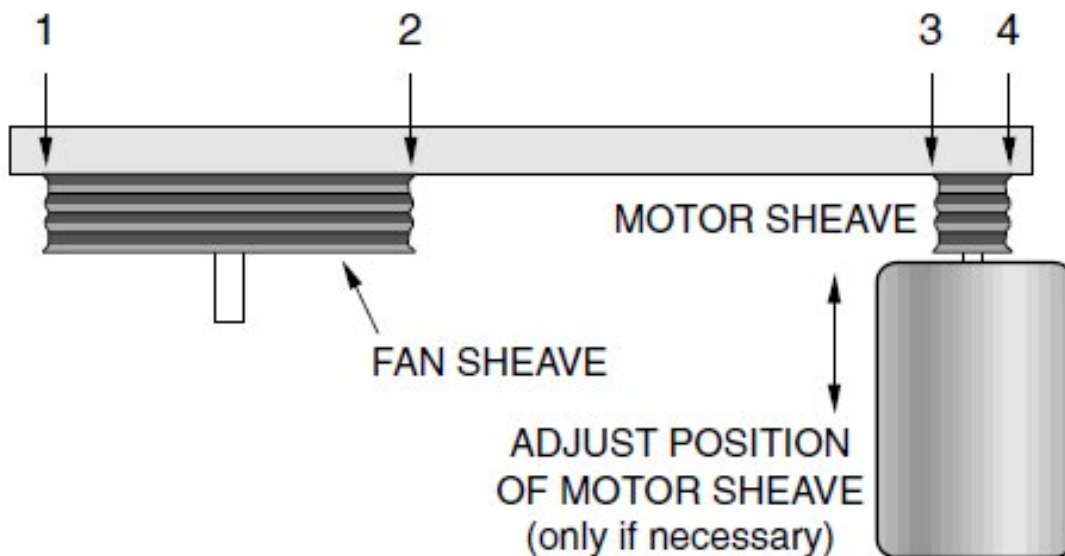

FIGURE 1
- Check sheave alignment by placing a straight edge across both sheaves at the same time. There should be four points of contact between the sheaves and the straight edge. (See **FIGURE 1**.)